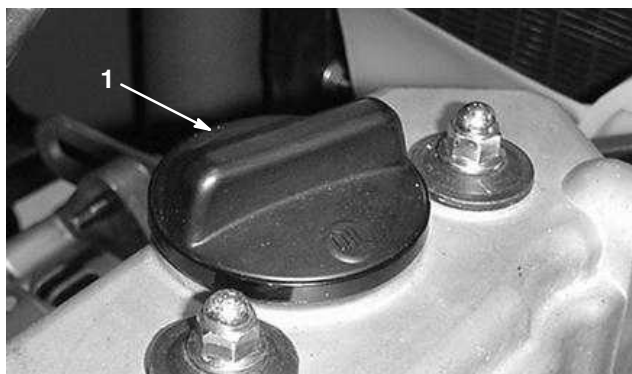

Figure 20
3. If oil level is low, remove filler cap (Fig. 20) and add enough oil to raise level to FULL mark on dipstick.